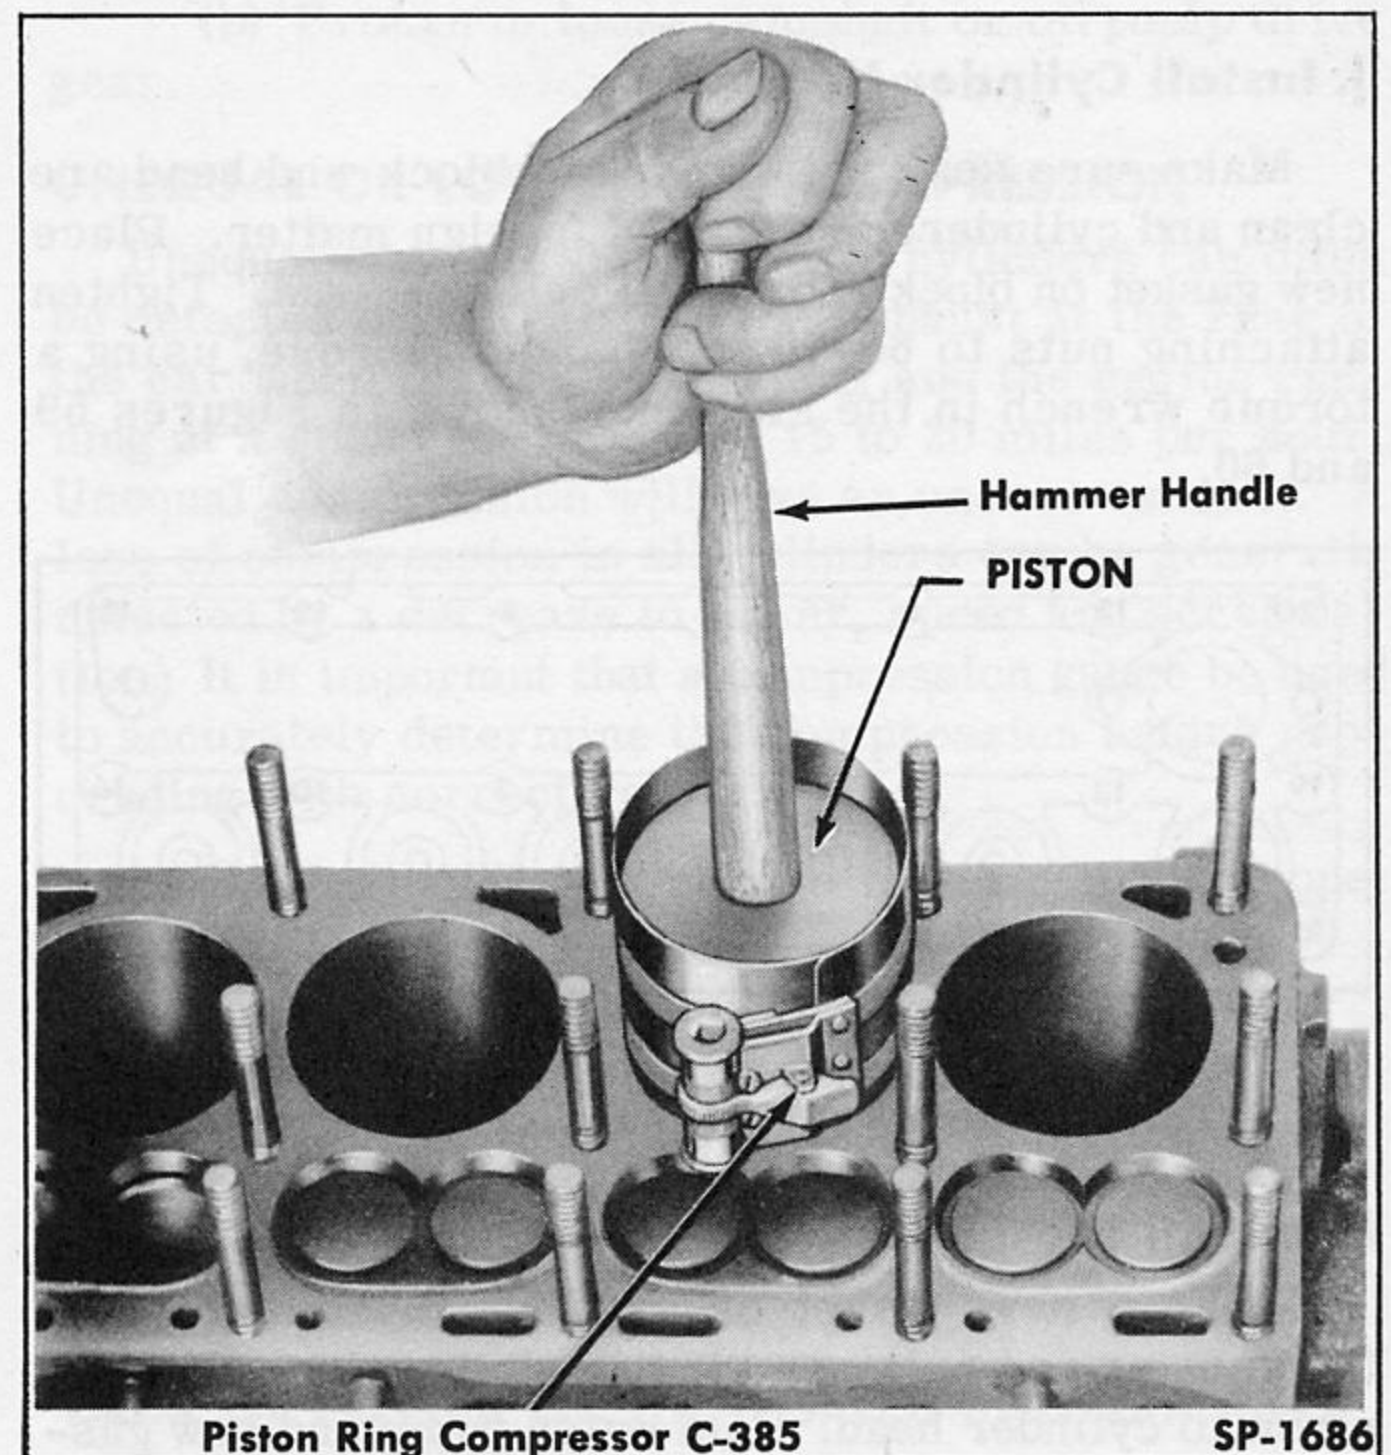

Fig. 58—Installing Piston and Connecting Rod Assembly
4. Install piston in cylinder as shown in Fig. 58. Gently tap piston with wooden hammer handle. Make sure oil hole in connecting rod is on the side away from camshaft. On four cylinder engines, also make sure offset side of connecting rods is placed away from nearest main bearing.